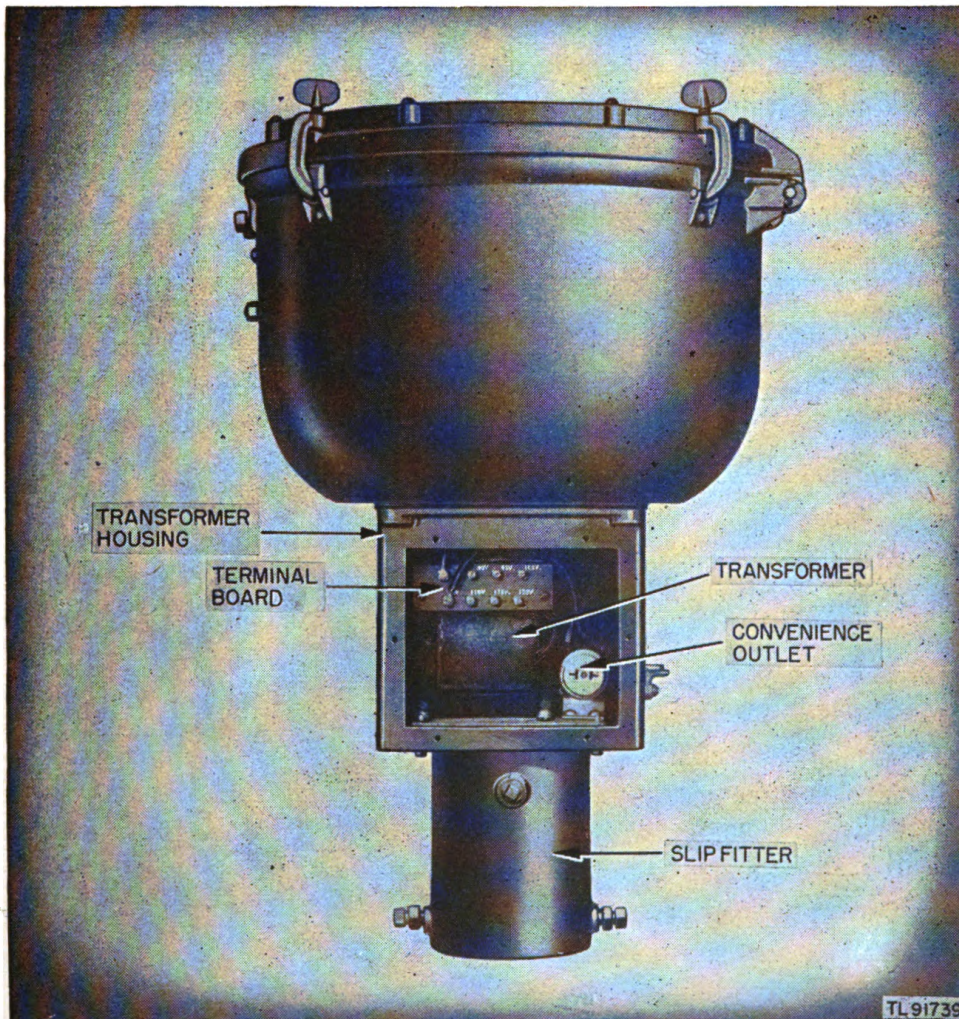

Figure 5. Ceiling Light Projector ML-121-D, supporting base, transformer-housing cover removed.
## 7. Transformer (figs. 5 and 6)
a. **SELECTING TRANSFORMER TAPS.** (1) Remove the cover plate of the transformer housing. Be sure that the power switch is off.
(2) Connect the two connectors of Ceiling Light Projectors ML-121-A and ML-121-B to transformer taps 1 and 6. In Ceiling Light Projectors ML-121-C, ML-121-D, ML-121-E, ML-121-F, and ML-121-G, connect the two movable terminals to the 120-volt taps. (See par. 7.)
(3) Close the switch which connects the projector to its power supply. *The connectors or movable terminals are now at line voltage. Do not touch them.*
(4) Plug the two leads of an a-c voltmeter, 0- to 150-volts range, into the convenience outlet (figs. 5 and 6), and measure the line voltage.
(5) Open the switch. Do not change the connections of the terminals or connectors while the control switch is closed.
(6) Determine the proper transformer taps for the measured line voltage, and connect these taps to the connectors. (See par. 7d.)
(7) Install a lamp in its socket. (See par. 23.)
(8) Close the switch, and measure the voltage across the lamp terminals.